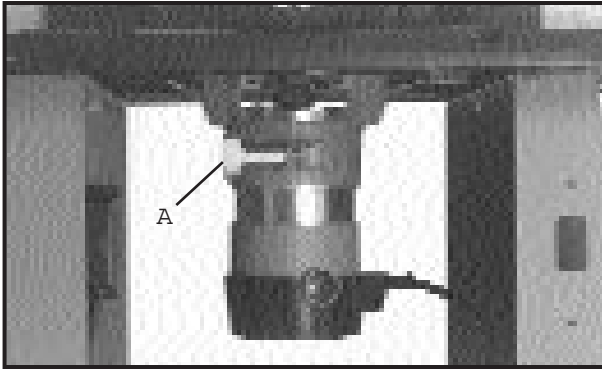

Fig. 13
1. Loosen clamp screw (A) Fig. 13.
3. Firmly tighten clamp screw (A) Fig. 13, to secure motor in base.